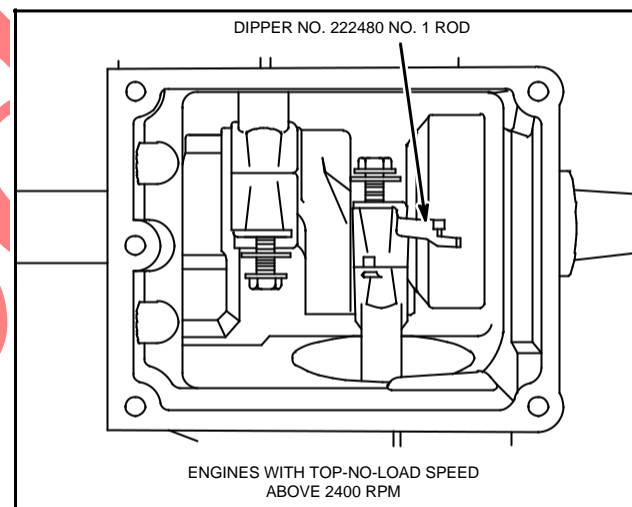
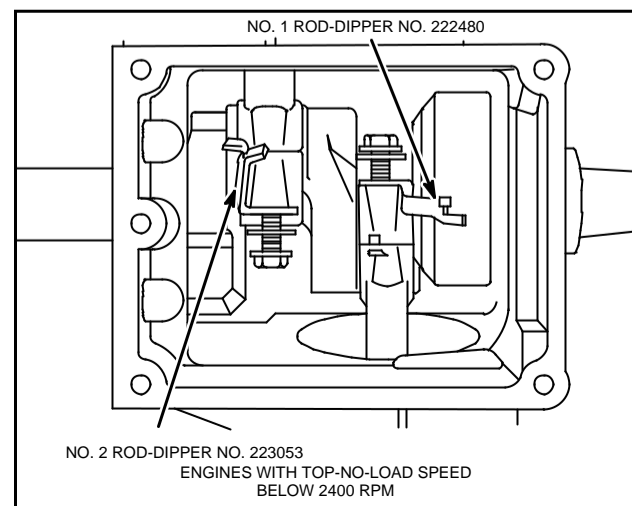

Fig. 18 – Dipper Location
Fig. 19 – Dipper Location
Install only one oil dipper on #1 connecting rod, Fig. 18. Use **ONLY** dipper part #222480. Engine models 421000 and 422400 manufactured before date code 92072000 were not originally equipped with this dipper. It is recommended that the oil dipper be replaced with dipper part # 222480 in all 421400 and 422400 engines at the time of major servicing or overhaul. When installing dipper part #222480 in these engines, the oil trough must be removed (if so equipped).
Engines with a Top-No-Load speed below 2400 RPM require 2 oil dippers. Install **ONLY** oil dipper part #222480 on # 1 connecting rod. Install **ONLY** dipper part #223053 on #2 connecting rod, Fig. 19.
Torque connecting rod screws, using torque wrench, Tool #19197 or #19393, to 190 in. lbs. (21.5 Nm), Fig. 18 or Fig. 19. Rotate crankshaft two (2) revolutions to check for binding. Connecting rod should also be free to move sideways on crankpin.